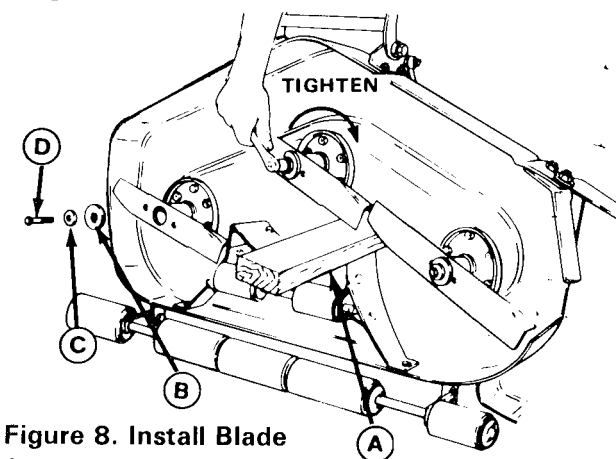

Figure 8. Install Blade
6. Reinstall each blade with the tabs pointing up toward deck and secure with a capscrew, cup washer, and spline washer. Be sure spline washer hub fits inside blade mounting hole. Use a wooden block to prevent blade rotation (figure 8) and torque capscrews from 45 to 55 ft. lbs. (61 to 74.6 N.m).